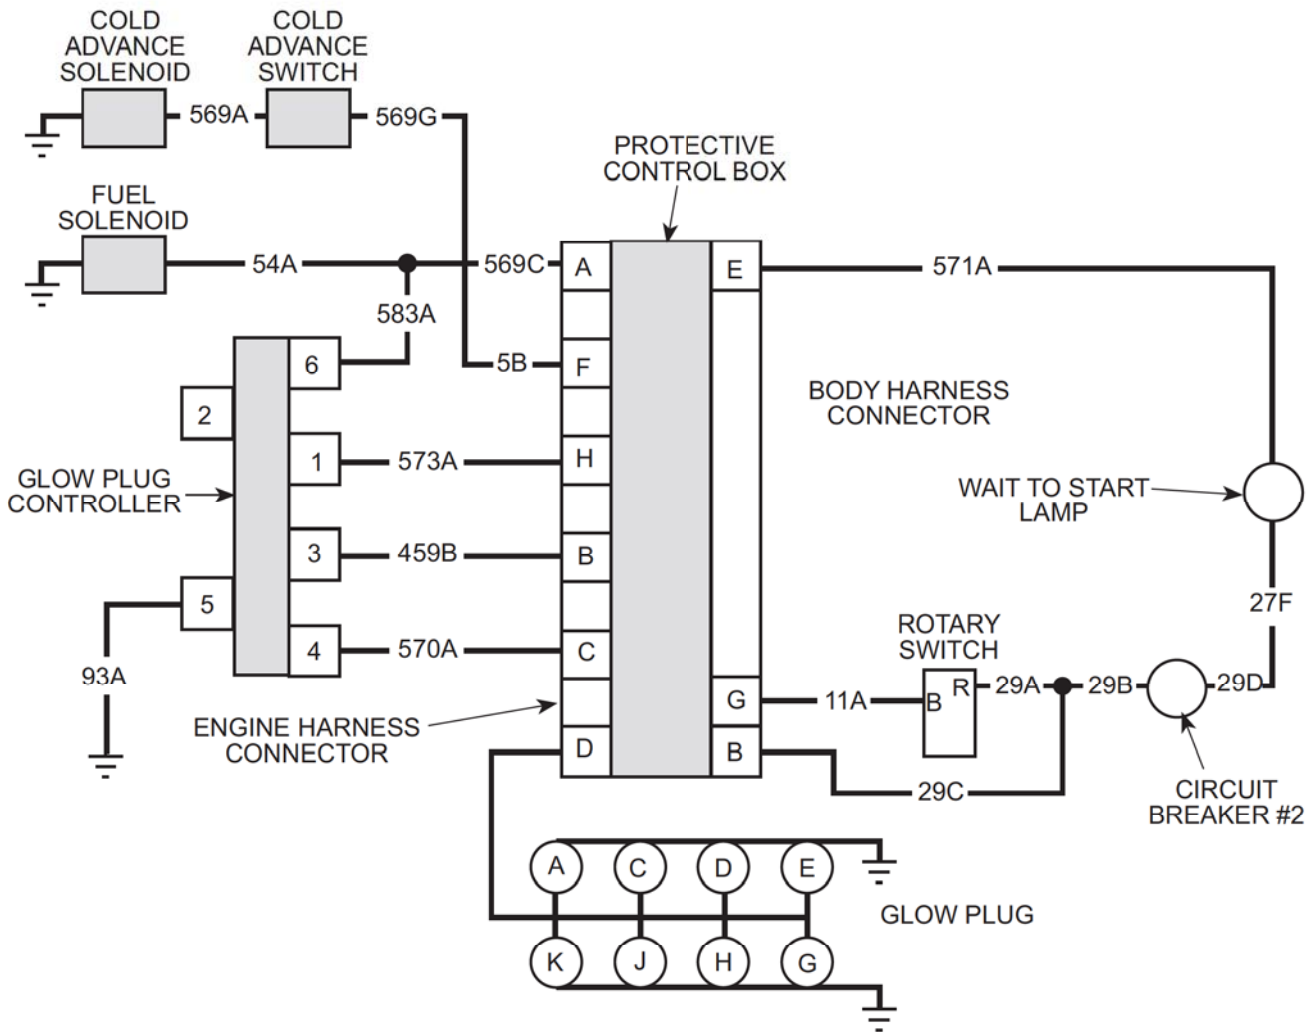

Figure 12-3. Glow Plug Controller Testing
**D. 6.2L ENGINE GLOW PLUG SYSTEM (Figure 12-3 through 12-6)**